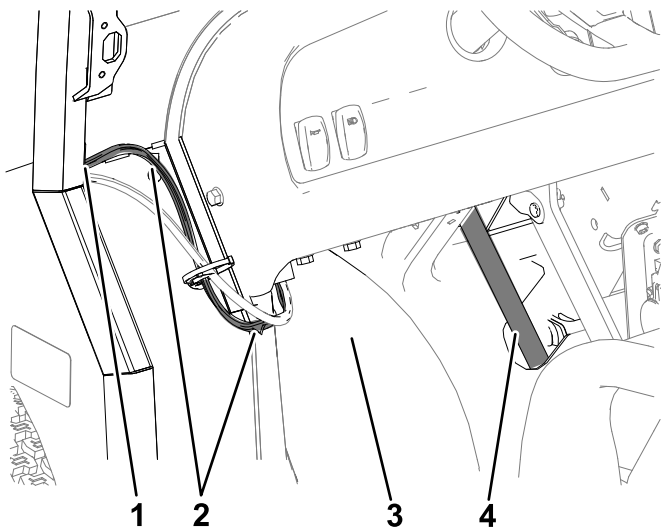

Figure 44
2. Route the 2-socket connector of the wire harness into the opening at the top of pillar A (driver's side) of the cab frame and down to the hole at the bottom of the pillar (Figure 44).
3. Route the wire harness forward, between the fender and the steering column (Figure 44 and Figure 45).